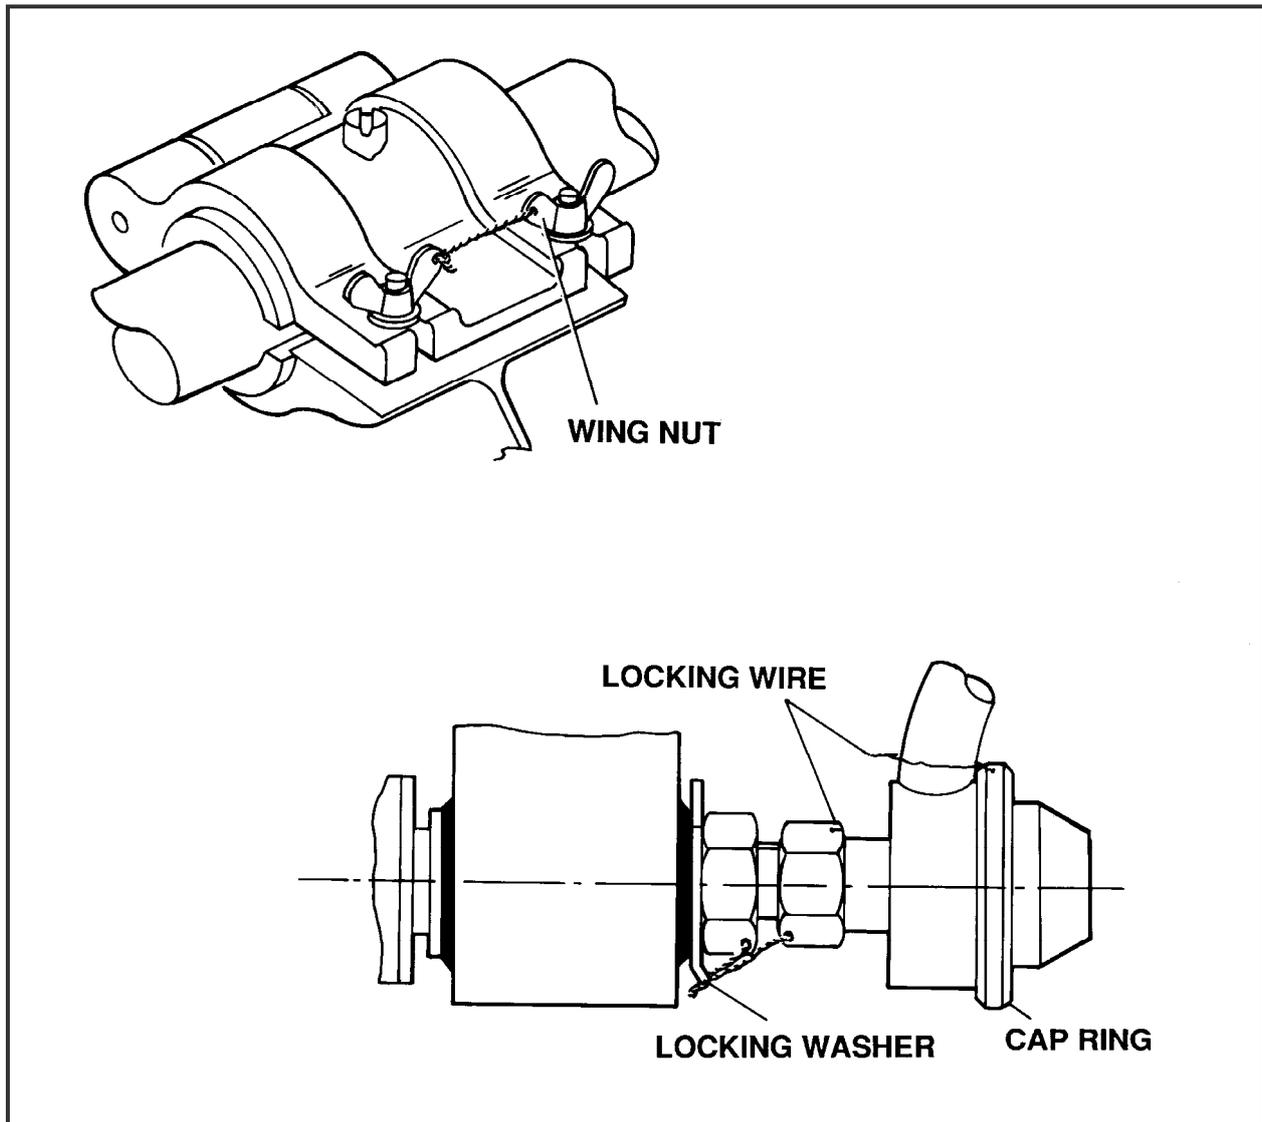

Fig. 2 – Wire Locking of Atomiser and Components
1. The two wing nuts of the mounting clamp must be evenly tightened to a torque of approximately 0.7 nm (0.5 lb ft) and wire locked together using the holes provided as shown in Fig. 2.
2. Tighten the atomiser securing nut (EX1514) to a torque of approximately 14 nm (10 lb ft) and wire lock to one hole in the locking washer (EX1975) as shown in Fig. 2.
3. Tighten the diaphragm check valve outlet nut and wire lock to the second hole in the locking washer (EX1975) as shown in Fig. 2.